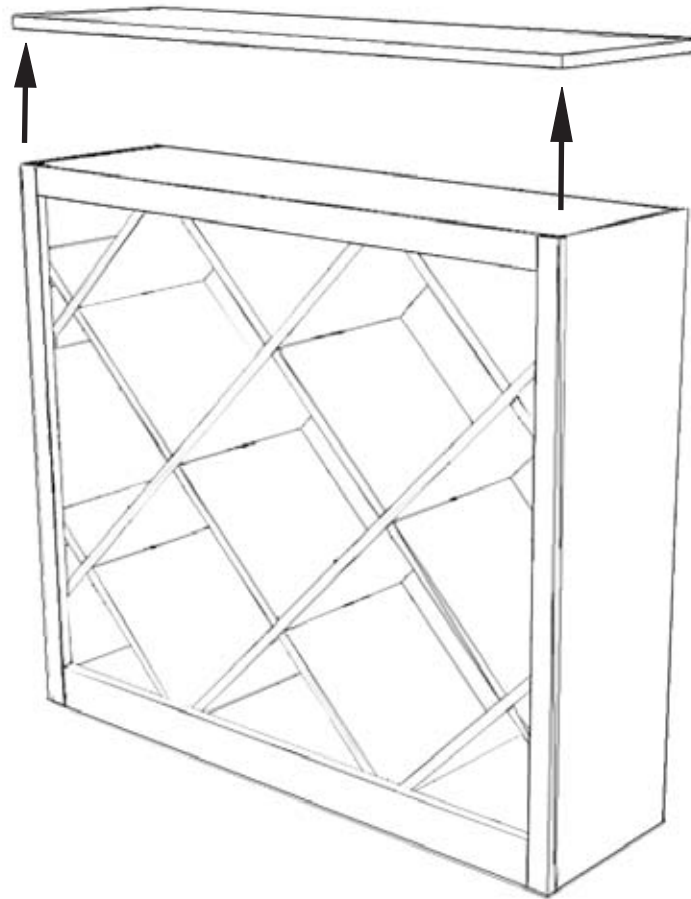

Figure 8
7. Locate the panels marked F1 (2) and F2 (2). Again, using the cleats as your guide, align the bottom of the panels with the left side cleats. Insert panel F1 in the upper left hand corner, fitting the slot in the center of the panel over the top of the slot in panel B1. After you have inserted panel F1, work your way down by inserting all remaining F2 panels and finish by inserting the second F1 panel in the lower right hand corner (**Figure 8**). (*Be sure to carefully align the edges of the inside panels so that they are flush with both the front and back edges of the side, top and bottom panels. You may need to use a soft-faced hammer or mallet to ensure a proper fit over the back panels.)
13. **To attach a tabletop:** Position the tabletop so it is flush with the sides, front and back of the diamond bin. Using the washer head screws provided, attach the tabletop by drilling through the under side of the bin's top panel to secure the tabletop (**Figure 8**).